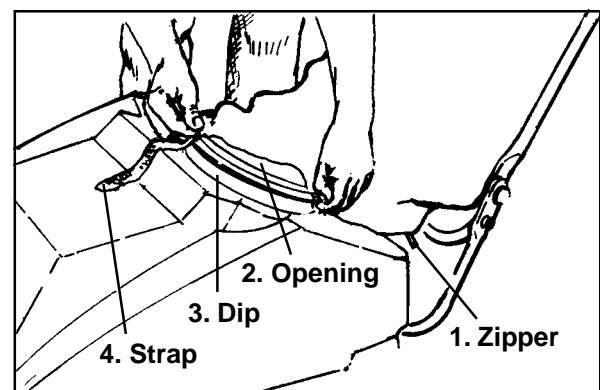

Figure 2
Make sure the filter bag is empty and clean before you install the bag and begin to use the machine. Use the zipper (1) on the bag to remove the contents of the bag. See figure 2.
To install the filter bag, put the opening (2) in the bag around the lip (3) that holds the bag. Tighten the strap (4) to hold the bag in position. See figure 2